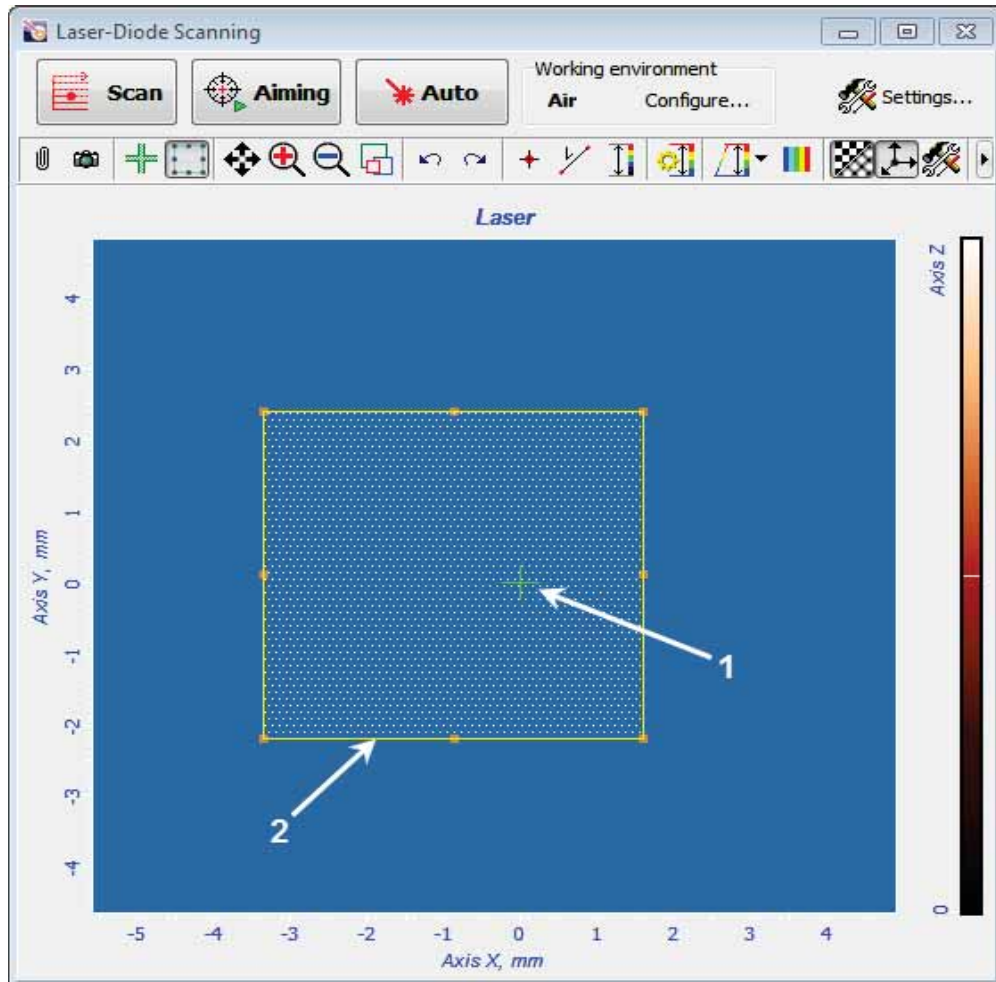

Fig. 6-42. **Laser-Diode Scanning** window
- a) Enable modifications of size and position of the search area by clicking the  button in the Control panel of the **Laser-Diode Scanning** window (Fig. 6-42).
- b) Change size and position of the scan area with the mouse (pos. 2 in Fig. 6-42).